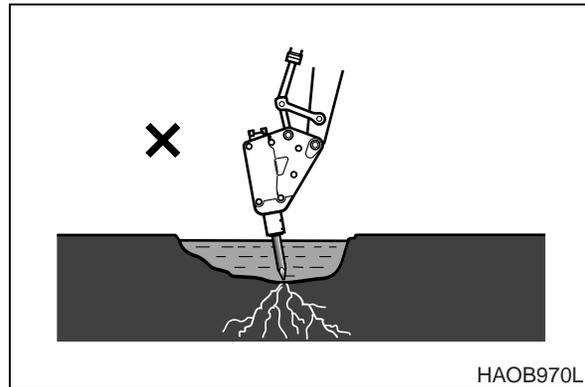

Figure 74
6. DO NOT allow the breaker body to go into water if not equipped for underwater operation. The breaker seal can be damaged and allow rust, foreign material or water to enter the hydraulic system and cause damage. Only insert the breaker tool into water. See Figure 74.